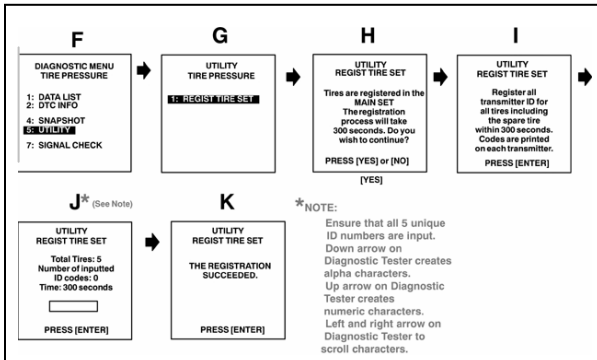

Fig. 10-3
- Turn on Tester and Select **UTILITY - REGIST TIRE** following the hand-held tester screen prompts. (Fig. 10-2 & Fig. 10-3)